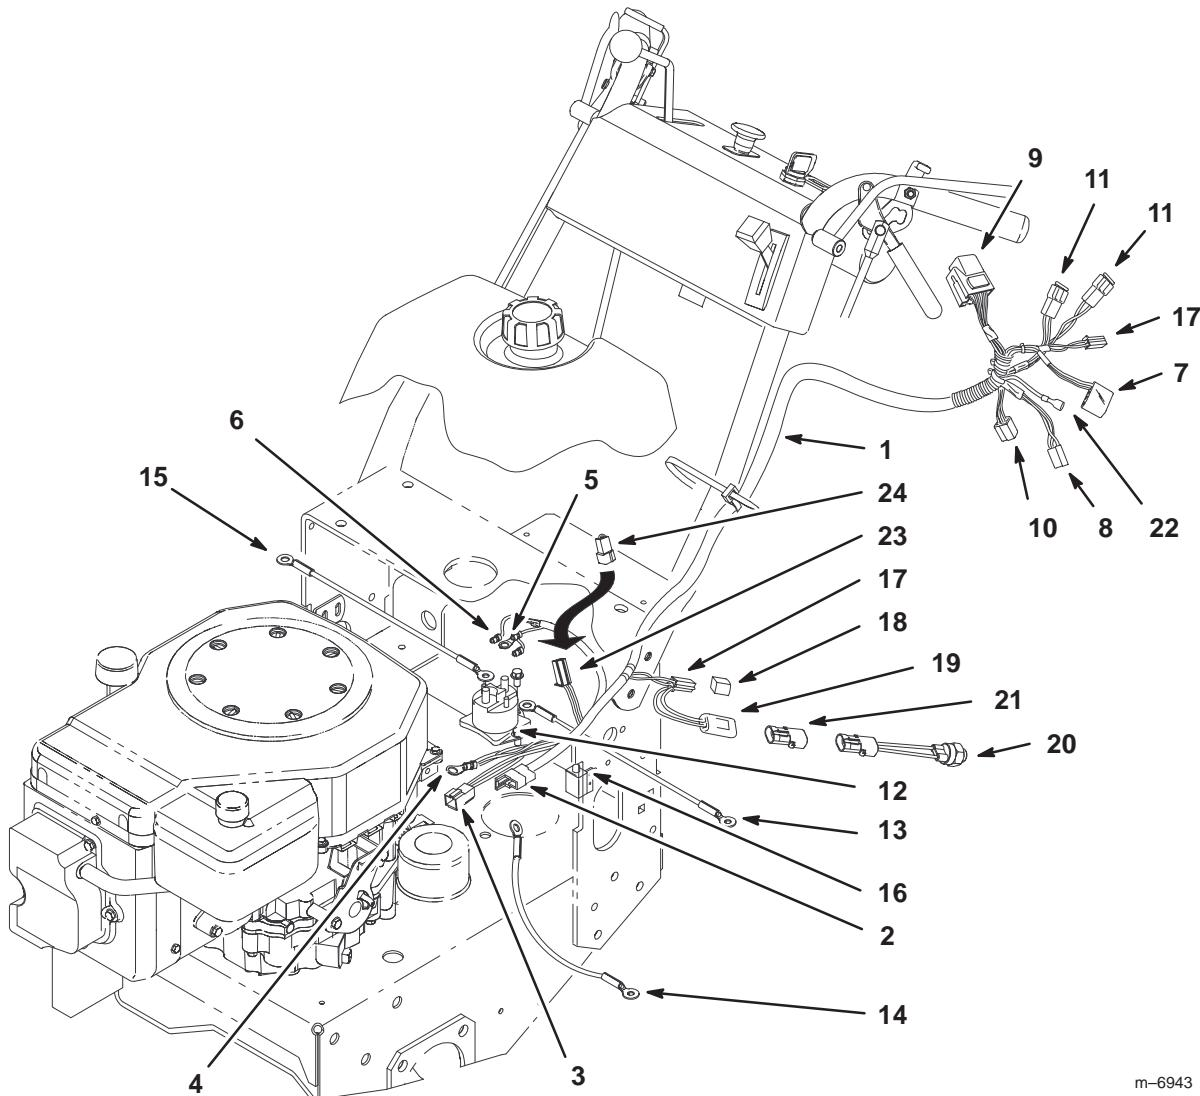

Figure 24
2. Connect the clutch connector to the clutch wire lead (Figures 24 and 26).
3. Connect the engine connector to the engine wire lead (Figures 24 and 26).
4. Remove the bolt and engine bracket from engine (Figures 24 and 26). Do not replace the engine bracket. Keep bracket for future use.
5. Connect the battery negative cable and the black harness ground wire to the engine with bolt (Figures 24 and 26).
6. Connect the bullet terminals to the solenoid (Figures 24 and 27).
7. Connect one end of the positive battery cable and the B+ harness wire lead (red) to one post on the solenoid (Figures 24 and 27).
9. Install positive starter cable to the solenoid post (Figures 24 and 27).
1. Install the ignition switch harness connector to new ignition switch (Figures 24 and 28).
2. Install the ignition switch blade harness connector to new ignition switch (Figures 24 and 28).
3. Install the PTO harness connector to the PTO switch (Figures 24 and 28).
4. Install the Operator Presence Control (OPC) switch harness connector to the OPC switch (Figures 24 and 28).
9. Install the fuses to the edge of the cover using the clip (Figures 24 and 31).
10. Bolt relay socket to the control panel. Install relay into relay socket (Figures 24 and 32).